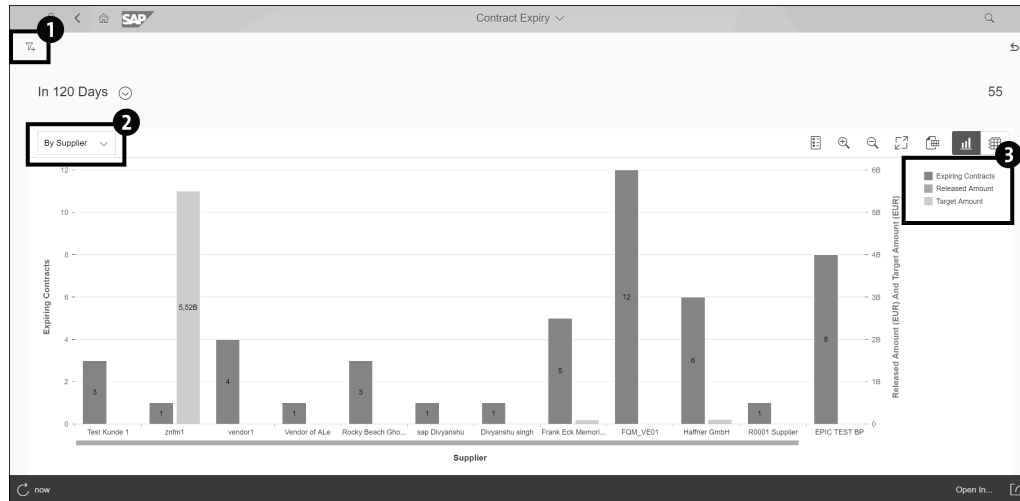

Figure 8.20 Contract Expiry
This app identifies contracts that are expiring within a certain time period and can display the number of expiring contracts, target amount, and released amount. The output can be displayed by supplier, purchasing group, purchasing organization, purchasing category, or material group, in tabular format or as a chart. As shown in Figure 8.20 ❶, it's also possible to filter the data by purchase contract, validity start/end, created by, currency, purchasing group/organization, supplier, and company code. You may select **By Supplier** to search by supplier, by purchasing group or organization, or by document ❷. Note that the table is coded by **Expiring Contracts**, **Released Amount**, and **Target Amount** ❸.